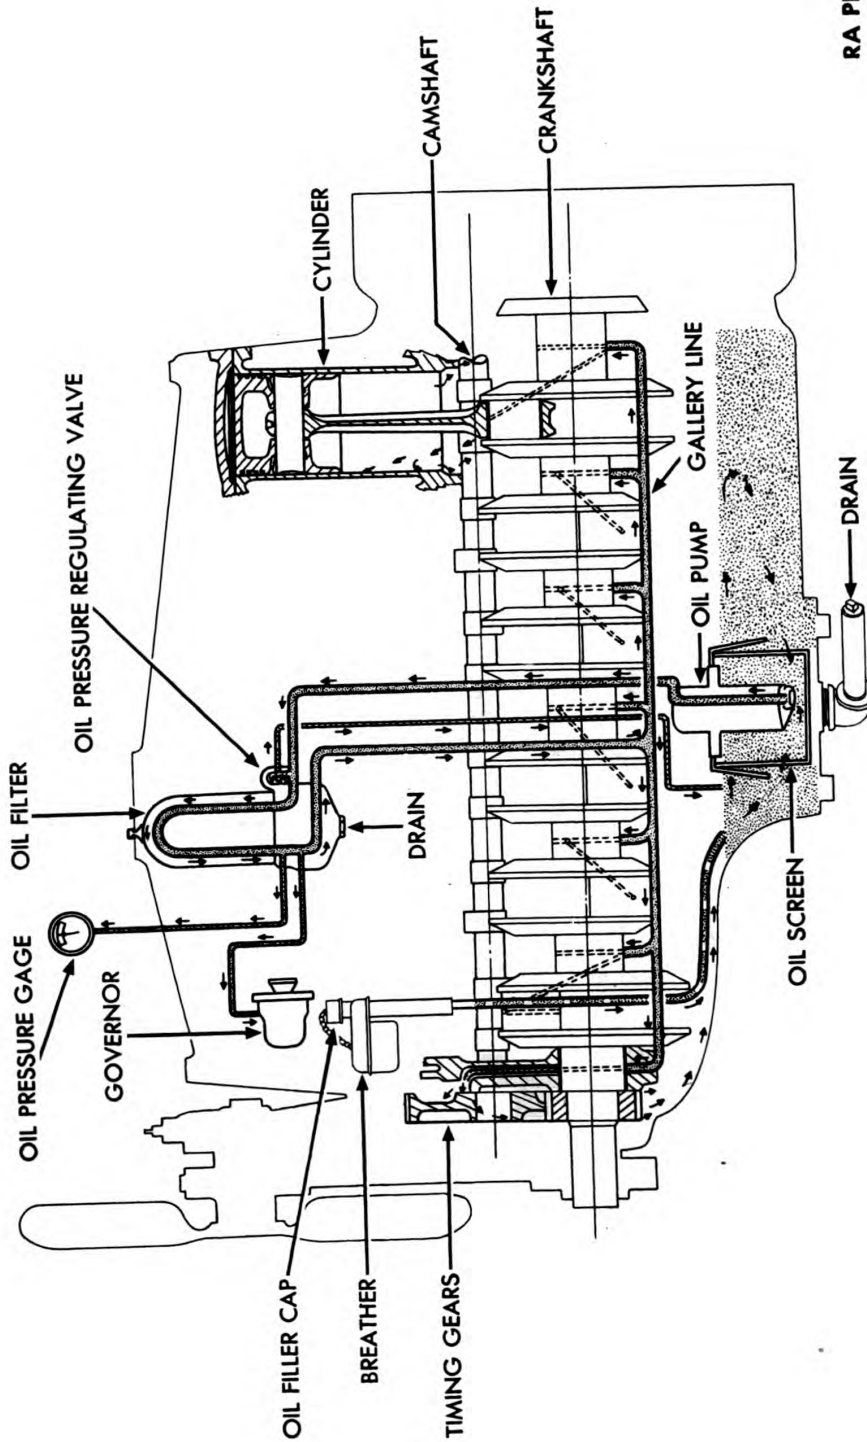

Figure 44 — Engine Lubrication System
69. DESCRIPTION (fig. 44).
a. The engine oil system provides continuous lubrication by means of a submerged-type gear pump driven from the camshaft. From the oil sump at the bottom of the crankcase, the pump draws oil through a strainer screen (fig. 44) and forces it to the main oil gallery, drilled in the cylinder block on the side opposite the camshaft. From here the oil is forced to the main and connecting rod bearings, front camshaft bearing, and governor. The rear and center camshaft bearings, cylinder walls, pistons, and valve tappets are all lubricated by oil thrown from ends of main and connecting rod bearings.
b. A certain amount of the oil forced to the gallery is taken off through a bypass, sent through the oil filter (fig. 44) and back to the sump. A pressure regulating valve on the gallery operates to allow oil to flow directly back to the sump when the oil pressure becomes
c. The oil filler pipe (fig. 44), which also functions as a crankcase breather, is located on the left front side of the engine and is provided with a filler cap and an air cleaner assembly. The filler pipe cap is painted red. Other oilers and grease fittings are identified by a red circle $\frac{3}{4}$ inch in diameter. Approximately 7 quarts of oil are needed for the oil pan, an additional quantity being required for the oil filter. From a tapped hole in the base of the oil filter, a copper tubing oil gage line leads to the oil gage on the instrument panel. The oil pressure should be approximately 25 pounds at 1,200 rpm, with the unit fully warmed up. When it is first started, the pressure will be slightly higher.
a. **Construction.** The oil filter (fig. 44), on the left side of the engine next to the distributor, has a heavy-gage steel, dome-shaped shell over a filter element of round felt pads about a center tube.
a. Description. The oil strainer (fig. 44) is of wire mesh on a steel frame attached to a removable cap at the bottom of the crankcase. The oil pump draws the oil through the strainer mesh.